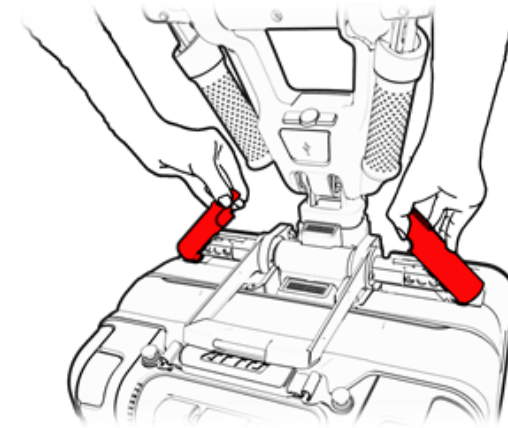

Figure 50
2. Open both separation levers (see Figure 50).